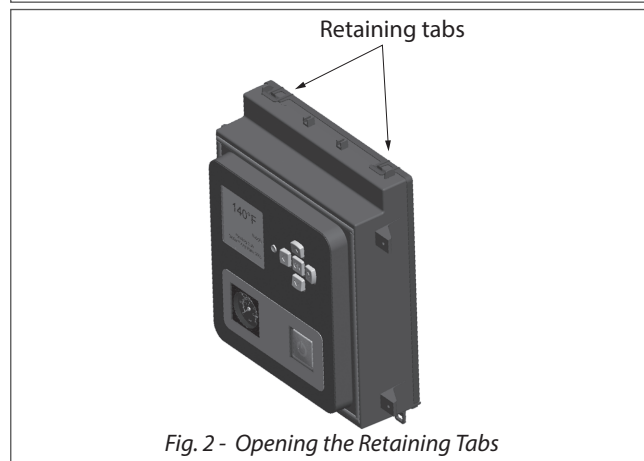

Fig. 2 - Opening the Retaining Tabs
6. Pull the retaining tabs on top of the rear cover to remove the rear control box cover. See *Fig. 2*.